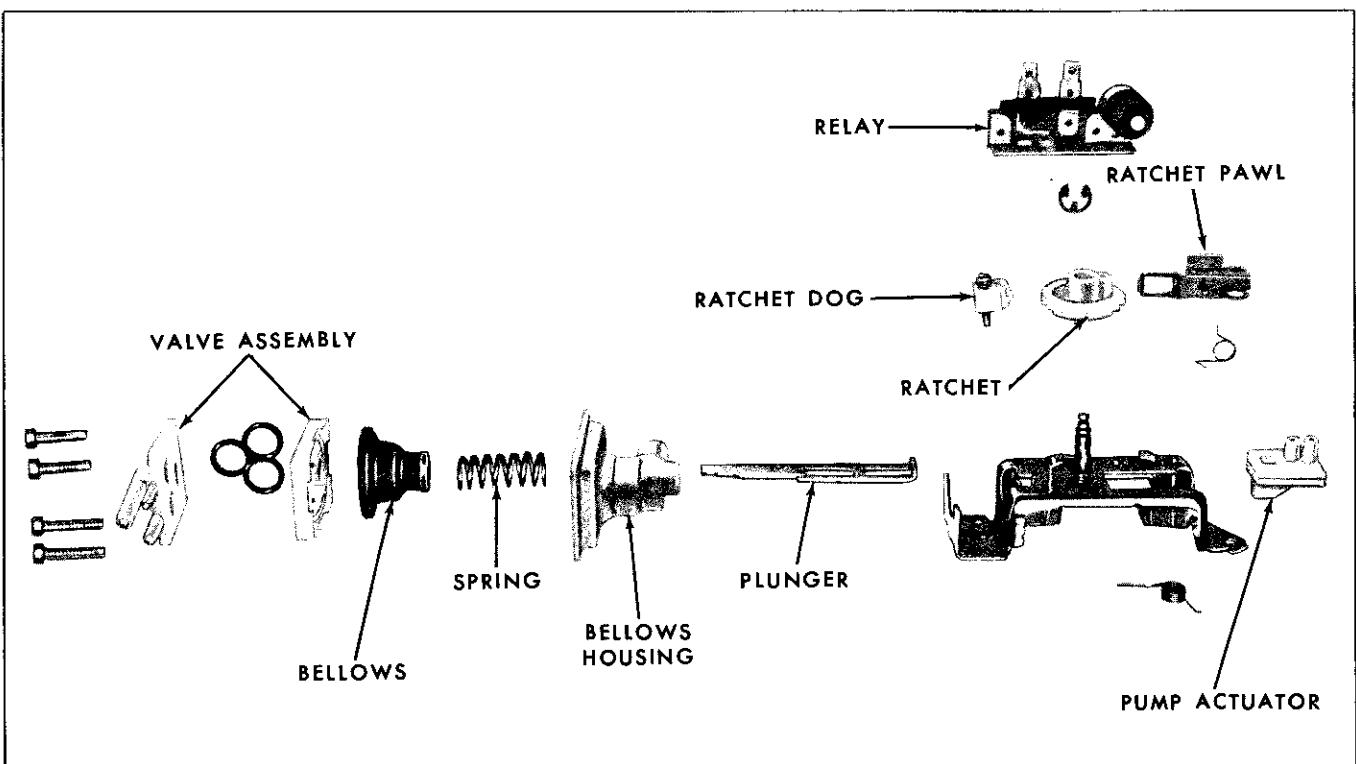

Fig. 12-47 Exploded View Pump Assembly—Tempest and Firebird
2. To release the plastic pump housing from the sheet-metal base, pull it in the direction toward the valve end until the housing grooves clear the sheet-metal base. Next, detach the assembly from the cam-follower pin, (Fig. 12-47).